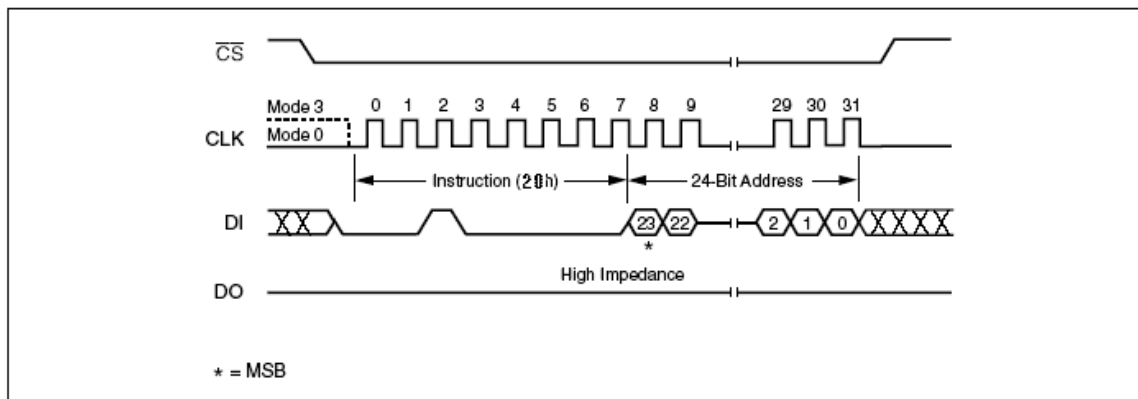

Figure 12. Sector Erase Instruction Sequence Diagram
The instruction sequence is shown in Figure 12.. Chip Select (CS#) must be driven High after the eighth bit of the last address byte has been latched in, otherwise the Sector Erase (SE) instruction is not executed. As soon as Chip Select (CS#) is driven High, the self-timed Sector Erase cycle (whose duration is  $t_{SE}$ ) is initiated. While the Sector Erase cycle is in progress, the Status Register may be read to check the value of the Write In Progress (WIP) bit. The Write In Progress (WIP) bit is 1 during the self-timed Sector Erase cycle, and is 0 when it is completed. At some unspecified time before the cycle is completed, the Write Enable Latch (WEL) bit is reset.